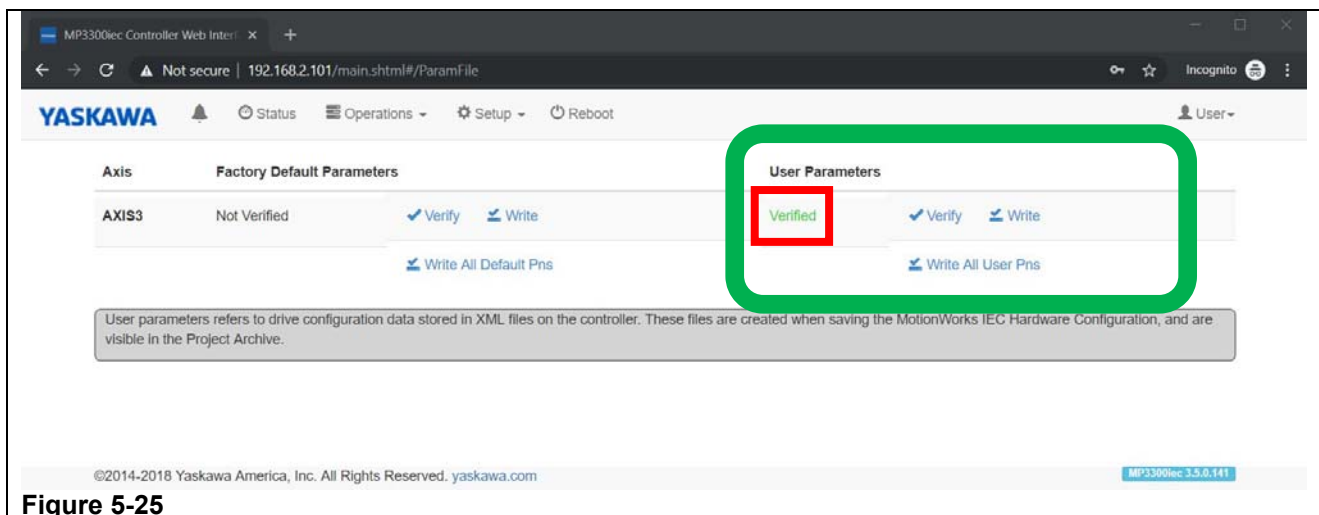

Figure 5-25
- v. Confirm that the 'User Parameters' write function is "Verified". (Refer to Figure 5-25)